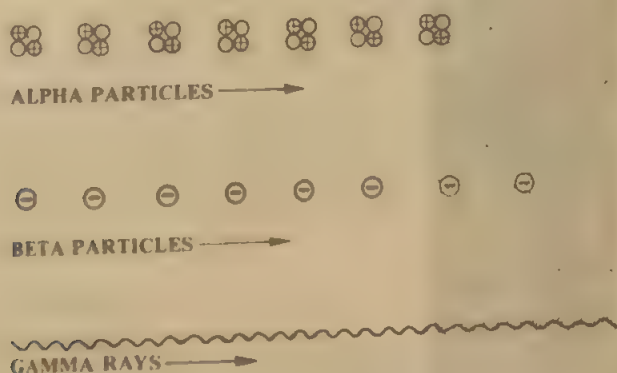

Fig. 12.2 The penetrating power of the three kinds of radioactivity. Alpha particles penetrate the least, gamma rays the most.
1. *Alpha ( $\alpha$ ) particles:* These particles are composed of two protons and two neutrons, and are identical to the nucleus of a helium atom. Thus each particle has a mass of about 4 atomic mass unit and a positive charge of two electronic unit. An  $\alpha$ -particle is represented by the symbol  ${}^4_2\text{He}$ . They are the most massive of the three radiations, but the slowest and the least penetrating (Fig. 12.2). They can travel to a maximum of 10 per cent of the speed of light and can be stopped by a piece of thin paper. Therefore, penetration of  $\alpha$ -particles into living system from outside is small. These particles can damage the tissues only when they are brought into intimate contact with internal tissues and organs.